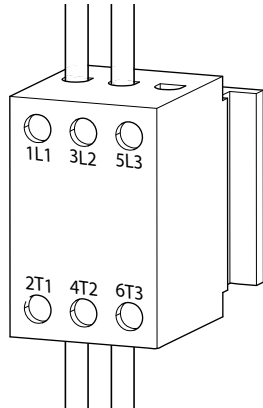

FIG. 16: Disconnect Switch Terminal Block
5. Attach the ground wire to the ground lug inside the Power Junction Box (AJ).
6. Refer to FIG. 16 and connect the wires from the power cord into terminals 4T2 and 6T3 on the Disconnect Switch terminal block.